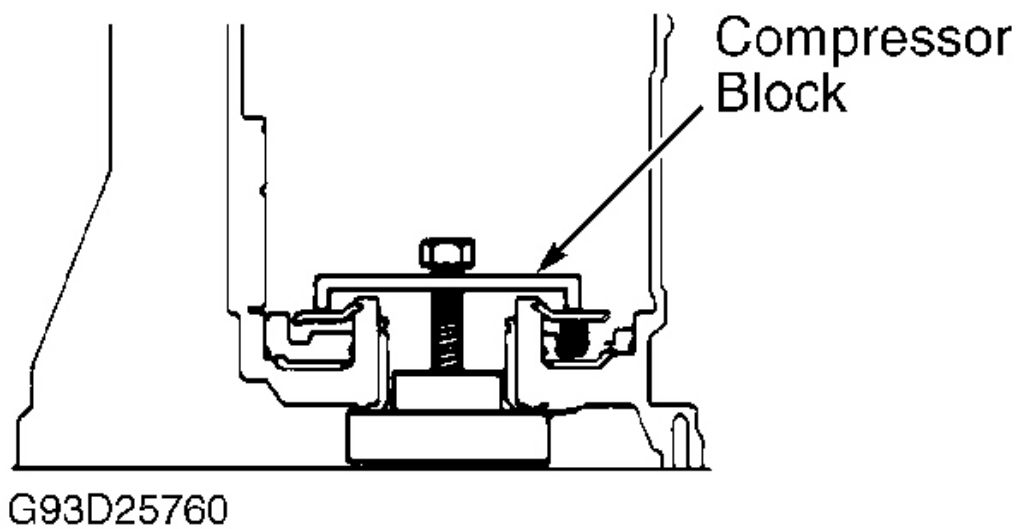

Fig. 29: Compressing Springs Of 1st & Reverse Brake Piston
2. Using Compressor Block (09351-32070), evenly and gradually tighten tool bolt to compress springs. See **Fig. 29**.